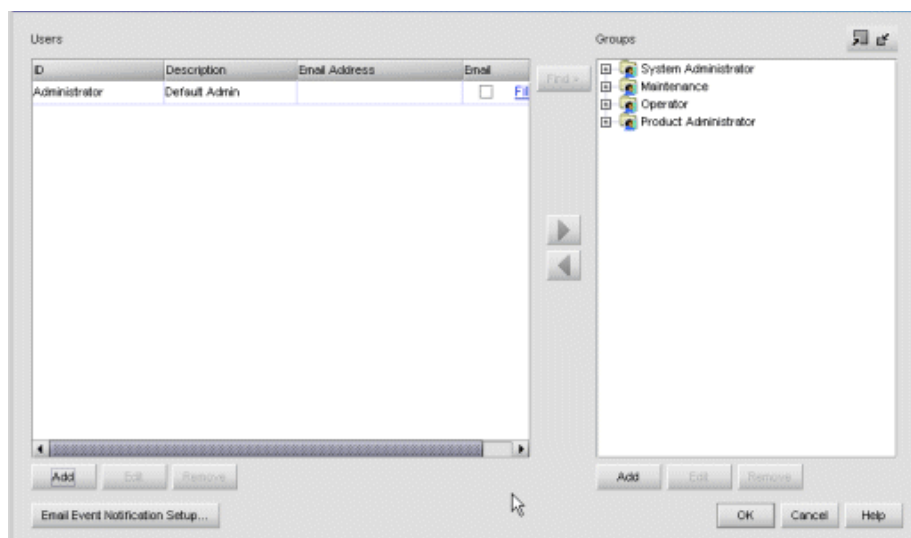

Figure 27: HAFM 8 Server Users dialog box
6. To specify users that are to receive e-mail notification, click **User List**. The HAFM 8 Server Users dialog box displays, as shown in Figure 27.